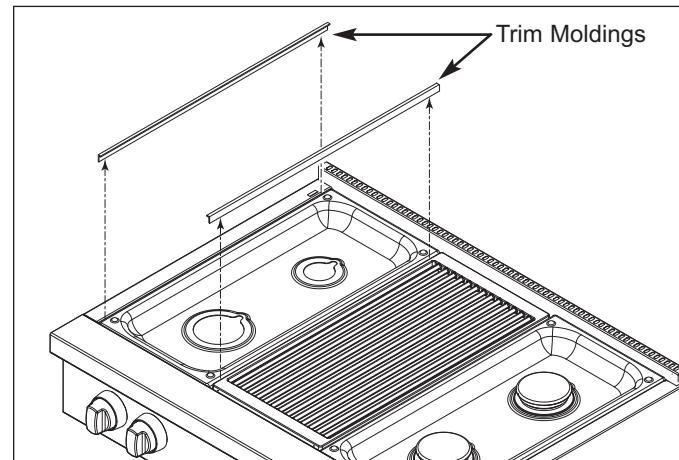

Figure 4-6B. Trim Moldings
2. Remove trim moldings from each side of burner pan. (See Figure 4-6B)